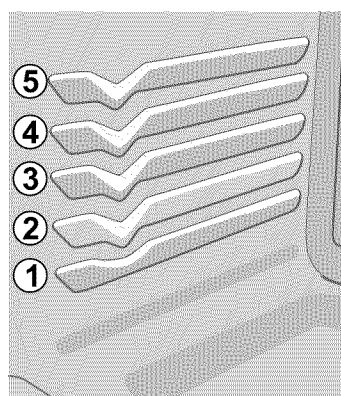

Figure 2
- When baking using two oven racks, position cookware as shown in Figure 2.